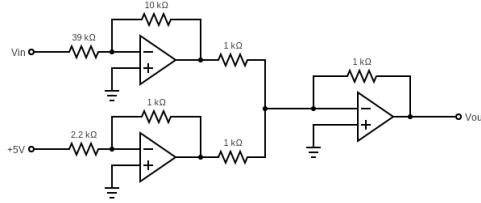

Figure 6: Circuit to Correct the Input Signal.
3. Construct the Circuit in Figure 6.
8. Connect the same 5V pin on the Arduino to the bottom left Inverting amplifier in figure 6.